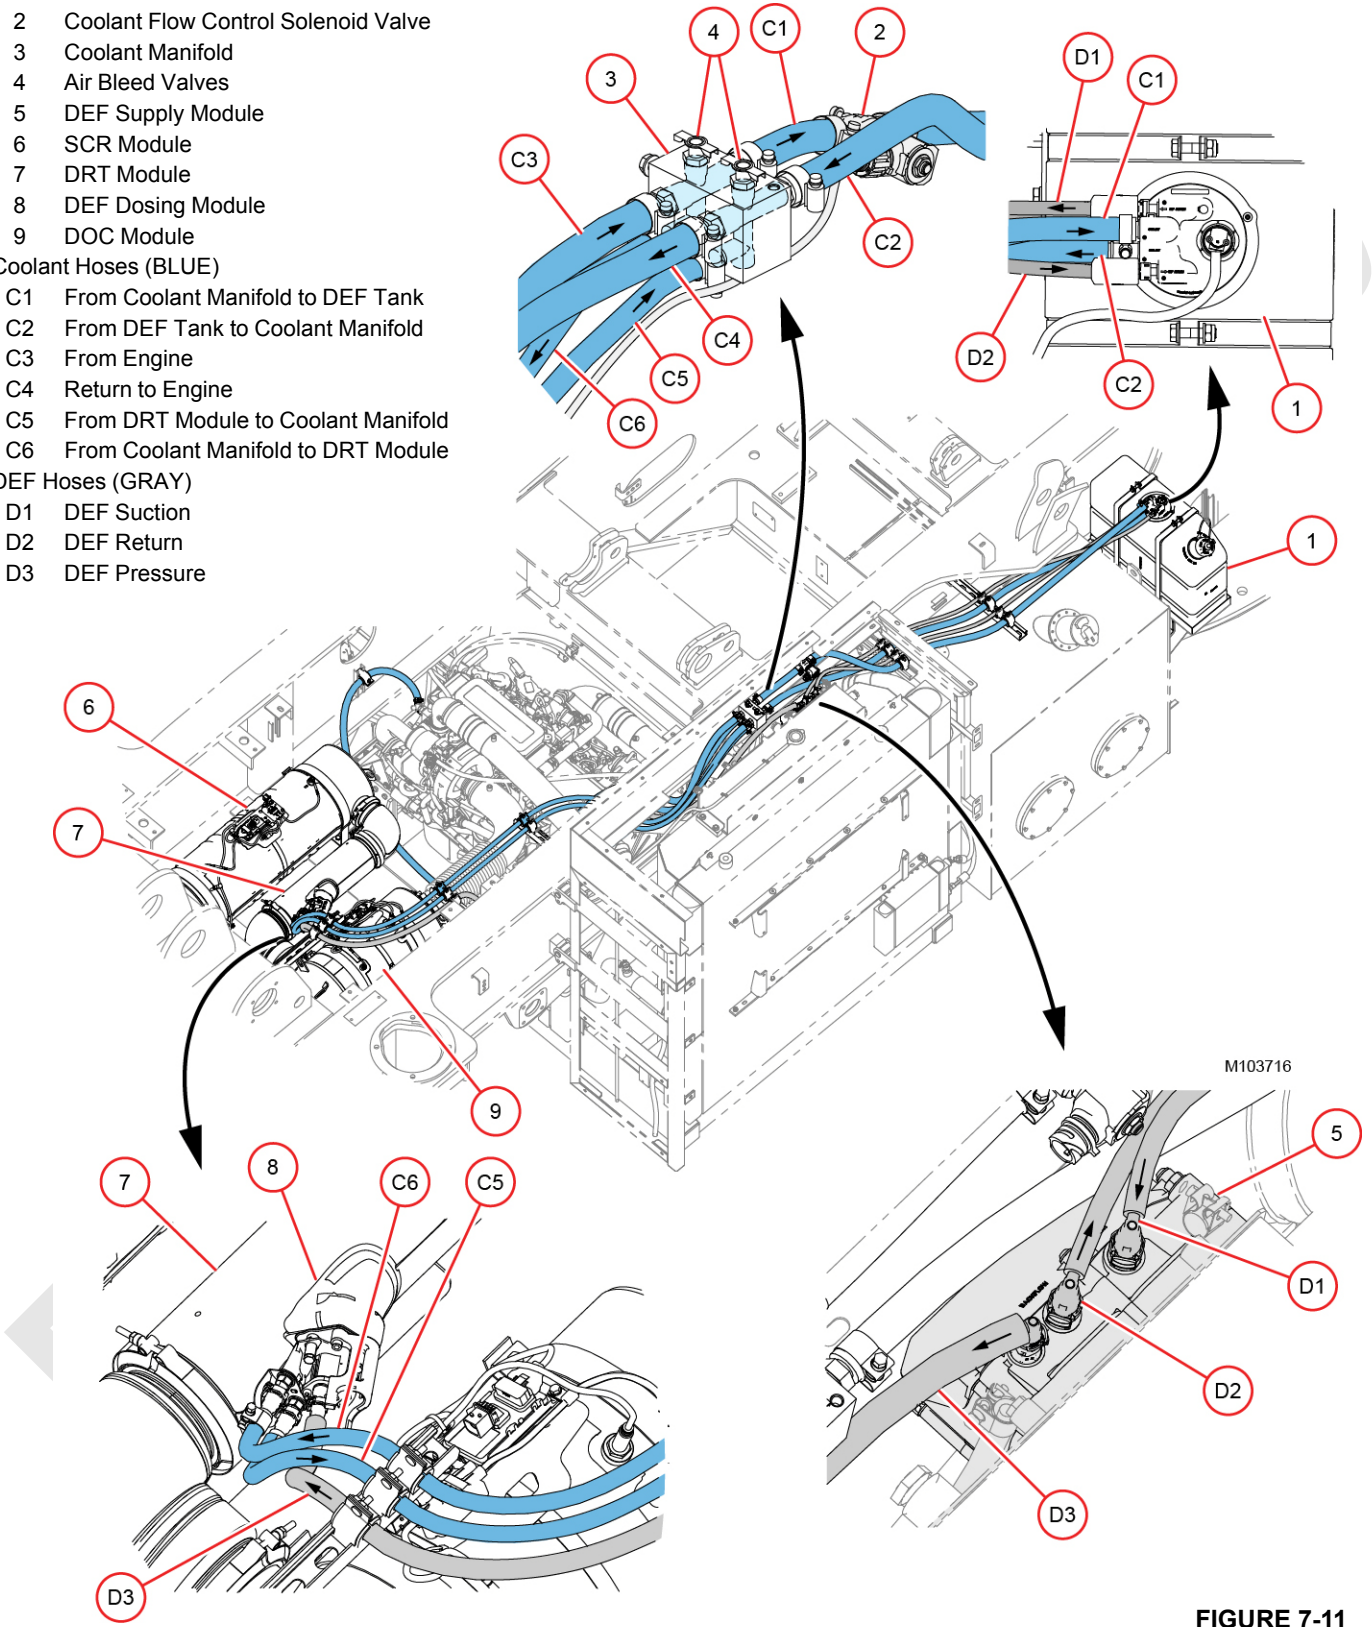

FIGURE 7-11
See Figure 7-11, page 7-14 for the following instructions.
The DEF tank (1, Figure 7-11, page 7-14) houses 10 gallons (38 L) of DEF. DEF consists of 32% urea and 68% de-ionized water. A constant mist of DEF, equal to 4.5% of the fuel used, is injected into the DRT module (7). This is about 10 gallons (38 L) of DEF for 1.5 tanks of fuel.
When needed, the DEF is heated by engine coolant which is circulated through a heat exchanger in the tank. If the tank temperature drops below 25° F (-4° C), the ECM will open the coolant solenoid valve (2, Figure 7-11, page 7-14) to allow coolant to flow through the heat exchanger.
The coolant manifold (3, Figure 7-11, page 7-14) routes coolant flow to the system.
The air bleed valves (4, Figure 7-11, page 7-14) are used to bleed air from the system when needed.
The DEF supply module (5, Figure 7-11, page 7-14) is an electronically operated pump and metering system controlled by the ECM. The module pumps DEF to the dosing module (8) which is mounted on the DRT module (7).
The SCR module (6, Figure 7-11, page 7-14) incorporates a catalyst, two temperature sensors, an NH₃ sensor, and a NO_x sensor.
DRT (7, Figure 7-11, page 7-14) is a tube mounted between the DOC module (8) and the SCR module (6).
The DEF dosing module (8, Figure 7-11, page 7-14) injects a liquid mixture of urea and deionized water (called DEF) into the exhaust stream ahead of the inlet to the SCR module (6). Coolant lines run through the dosing module to keep it cool and operable.
The primary function of the DOC module (9, Figure 7-11, page 7-14) is to oxidize the remaining hydrocarbons in the exhaust to carbon dioxide. It incorporates a NO_x sensor, a dP sensor, and two temperature sensors.
Warm coolant from the engine is routed to the coolant manifold (3, Figure 7-11, page 7-14) where it splits into two paths: one path delivers coolant to the heat exchanger in the DEF tank (1) to keep the DEF warm, and the other path